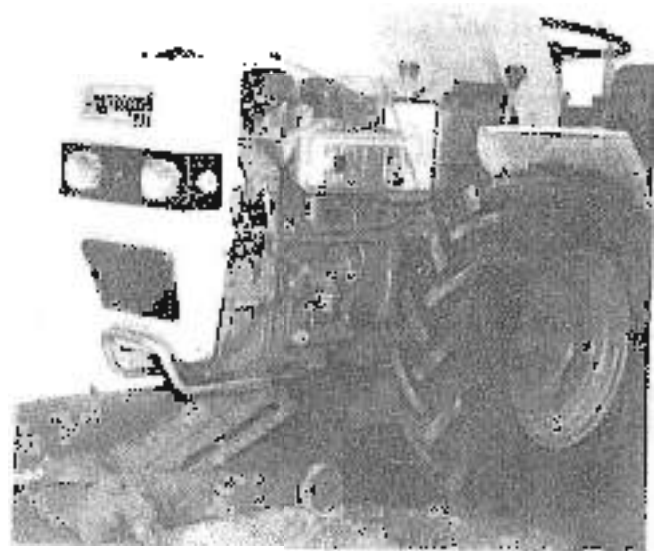

FIG. 7
Note: Support the engine/bell housing assembly prior to removing all (6) bolts. (Fig. 7)